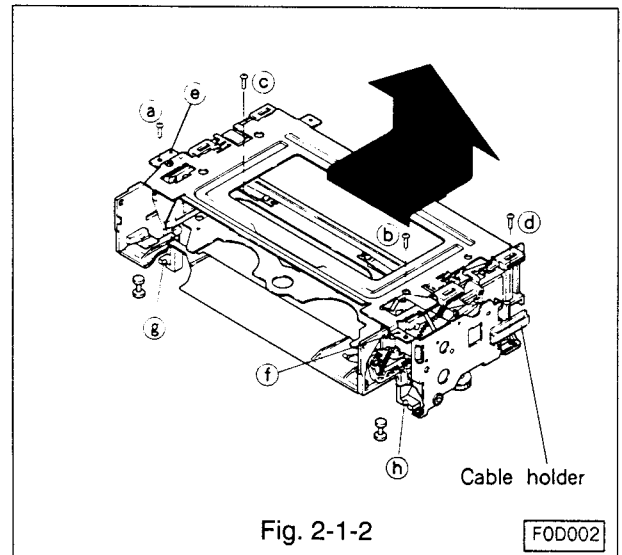

Fig. 2-1-2
- Unscrew four cassette housing fastening screws [(a),(b),(c) and (d)]. Raise the cassette housing slowly in the direction shown by the arrow.(Refer to Fig. 2-1-2.)
- Fasten the housing to the deck with the four screws [(a),(b),(c) and (d)].(Refer to Fig. 2-1-2.)